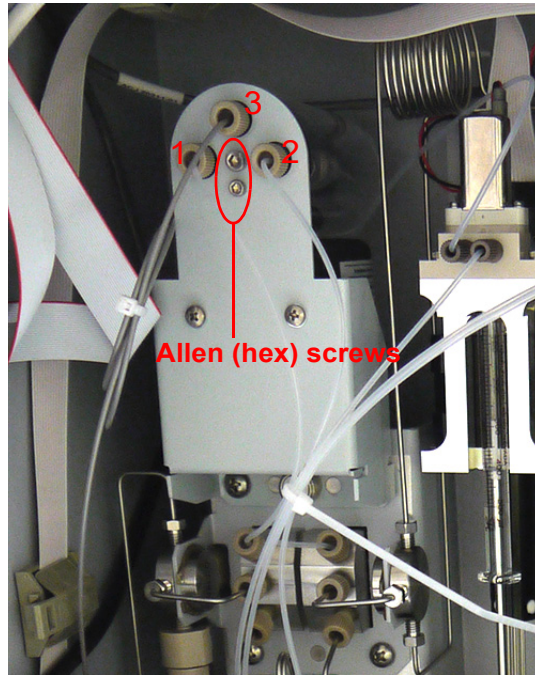

Figure 62: ICR Bracket
5. On the fluidics side of the Analyzer, remove the three knurled-nut tube connectors (1, 2, and 3 in Figure 62) from the degasser. (Note the orientation of the tubing for the reassembly process.)
6. Loosen both the large and small Allen (hex) screws (Figure 62). Pull the installed degasser away and dispose of it according to local regulations.
9. On the fluidics side of the Analyzer, reconnect the three knurled-nut tube connectors (1, 2, and 3 in Figure 62) on the degasser.